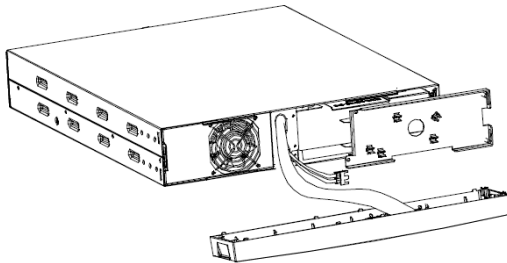

Figure 13: Removing the battery cover
3. Remove the battery cover (see Figure 13).